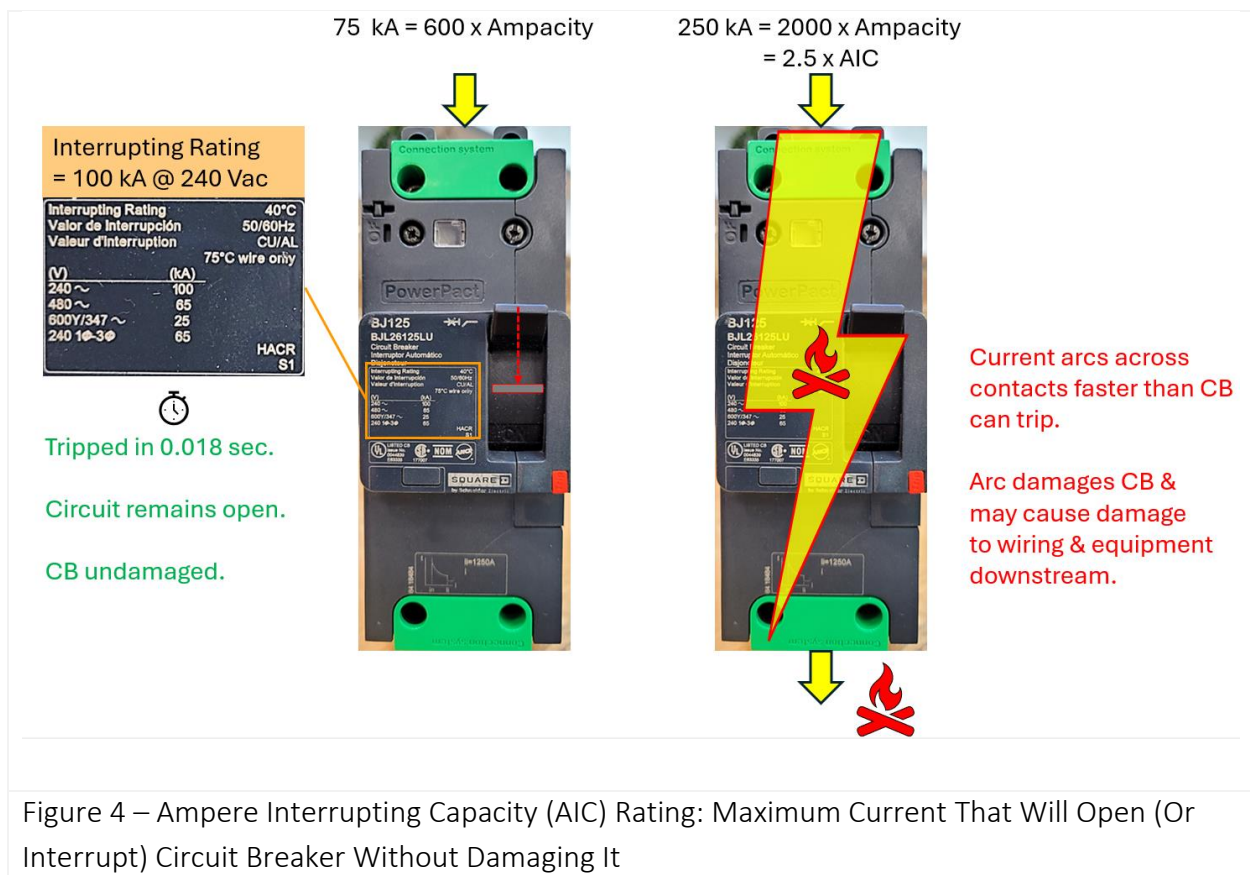

Figure 4 – Ampere Interrupting Capacity (AIC) Rating: Maximum Current That Will Open (Or Interrupt) Circuit Breaker Without Damaging It
Ampere Interrupting Capacity (AIC) is explained further with Figure 4 which shows 2 scenarios with a PowerPact BJ125 CB: (1) current below AIC, and (2) current above AIC.
Figure 4, on page 6, illustrates this situation. An ACCB with AIC = 100 kA will open the circuit and safely clear the fault when the worst-case maximum ac current is 75 kA. Using an ACCB with AIC rating below 75 kA may result in damage to the charger and/or breaker.